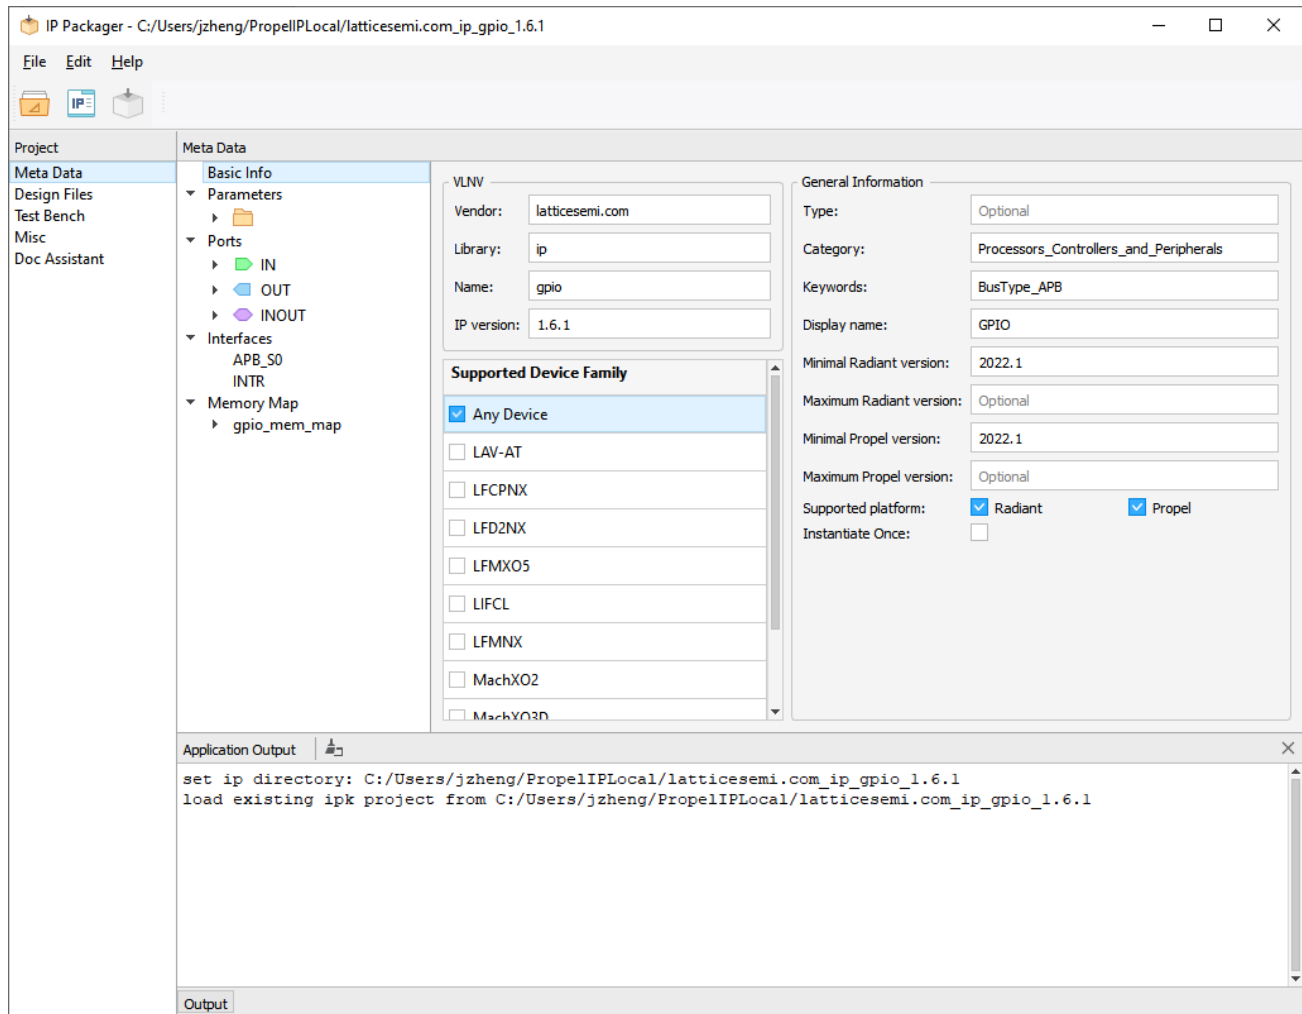

Figure 3.5. IP Packager with IP Project Details
3. Click **Select Folder**. The IP Packager GUI shows the IP Package project (Figure 3.5). IP package project includes three mandatory parts (Meta Data, Design File, and Doc) and two optional parts (Test Bench and Misc) that need to be edited. Refer to the Editing IP section for more details.